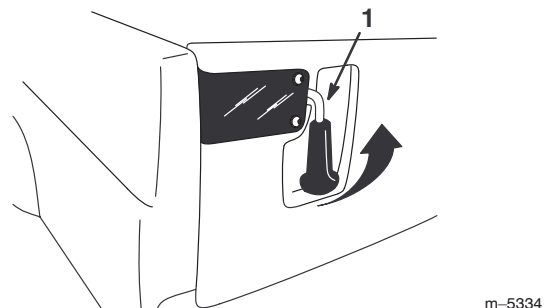

Figure 14
1. To open the tailgate latches, lift the latch handles up (Fig. 14). The latches will spring out toward the center of the tailgate. Slowly lower the tailgate.